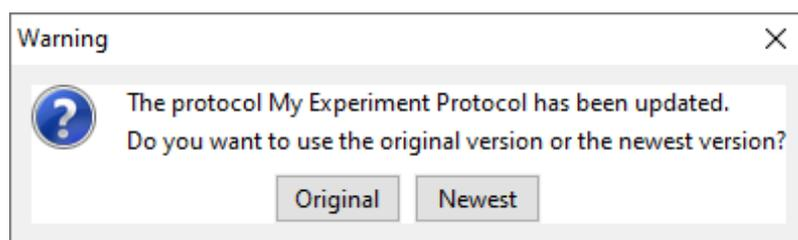

Figure 60 If 'Run again' is used for an old version of a protocol, it is possible to choose between re-running the old, original version or the newest version
4. If one or more of the protocols have been edited since the chosen plate run was executed, a dialog will appear giving the option of using either the original or newest version (see Figure 60)